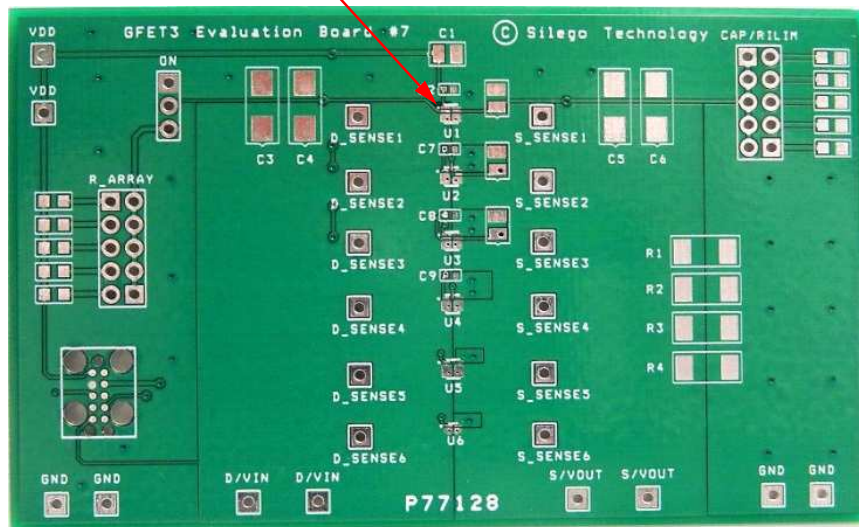

Figure 1. SLG5NT1586V Evaluation Board.
2. Since the D and S pins dissipate most of the heat generated during high-load current operation, it is highly recommended to make power traces as short, direct, and wide as possible. A good practice is to make power traces with absolute minimum widths of 15 mils (0.381 mm) per Ampere. A representative layout, shown in Figure 1, illustrates proper techniques for heat to transfer as efficiently as possible out of the device;
A GreenFET Evaluation Board for SLG5NT1586V is designed according to the statements above and is illustrated on Figure 1. Please note that evaluation board has D\_Sense and S\_Sense pads. They cannot carry high currents and dedicated only for RDSON evaluation.